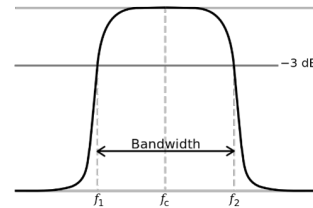

FIGURE 5. Illustration of  $Q$ . (credit: Wikipedia)
**2.3. Resonator Quality Factor.** The *quality factor*  $Q$  of a resonator is defined as the ratio of the resonant frequency to the 3dB bandwidth of the resonance. The 3dB bandwidth (Fig. 5) is defined as the width where the resonator response falls from its peak gain or attenuation (notch filter) by 3dB, which is a factor of 2 in power or  $\sqrt{2}$  in gain. The bandwidth is defined as the full width  $BW = 2\Delta\omega$ , which is twice the frequency detuning  $\Delta\omega = \omega - \omega_0$  needed to decrease the gain by  $\sqrt{2}$ .